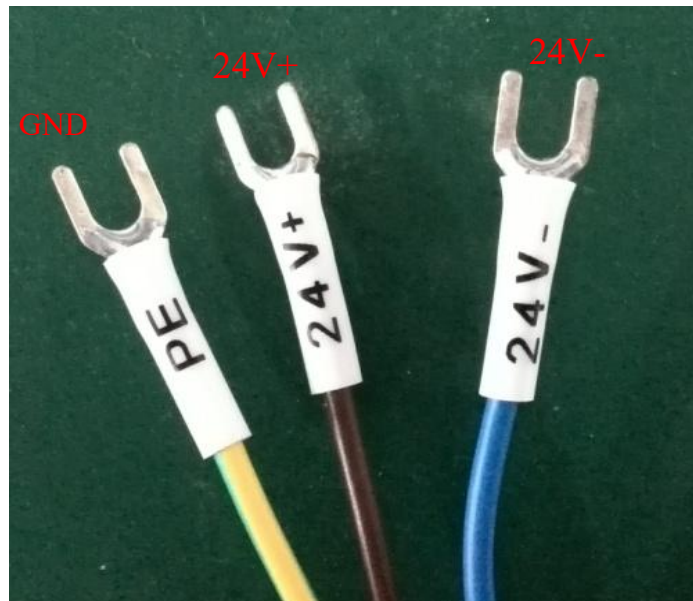

Figure 3 Definition of power line wires
- Connect the power line to 24 VDC power and ensure enough DC output power. Keep it clear to the polarity of the electric current: anode-brown; cathode-blue; PE-yellow and green. The definition figure is shown in Fig. 3.